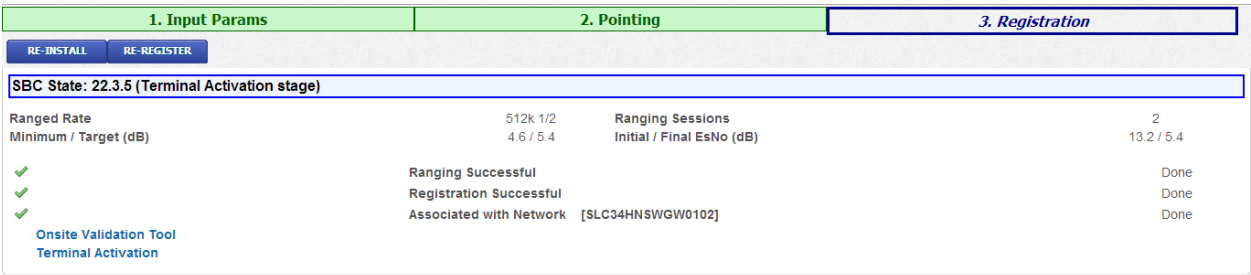

Figure 22: Onsite Validation Tool link
- 3. Click the Onsite Validation Tool link (OVT) as shown in Figure 22.